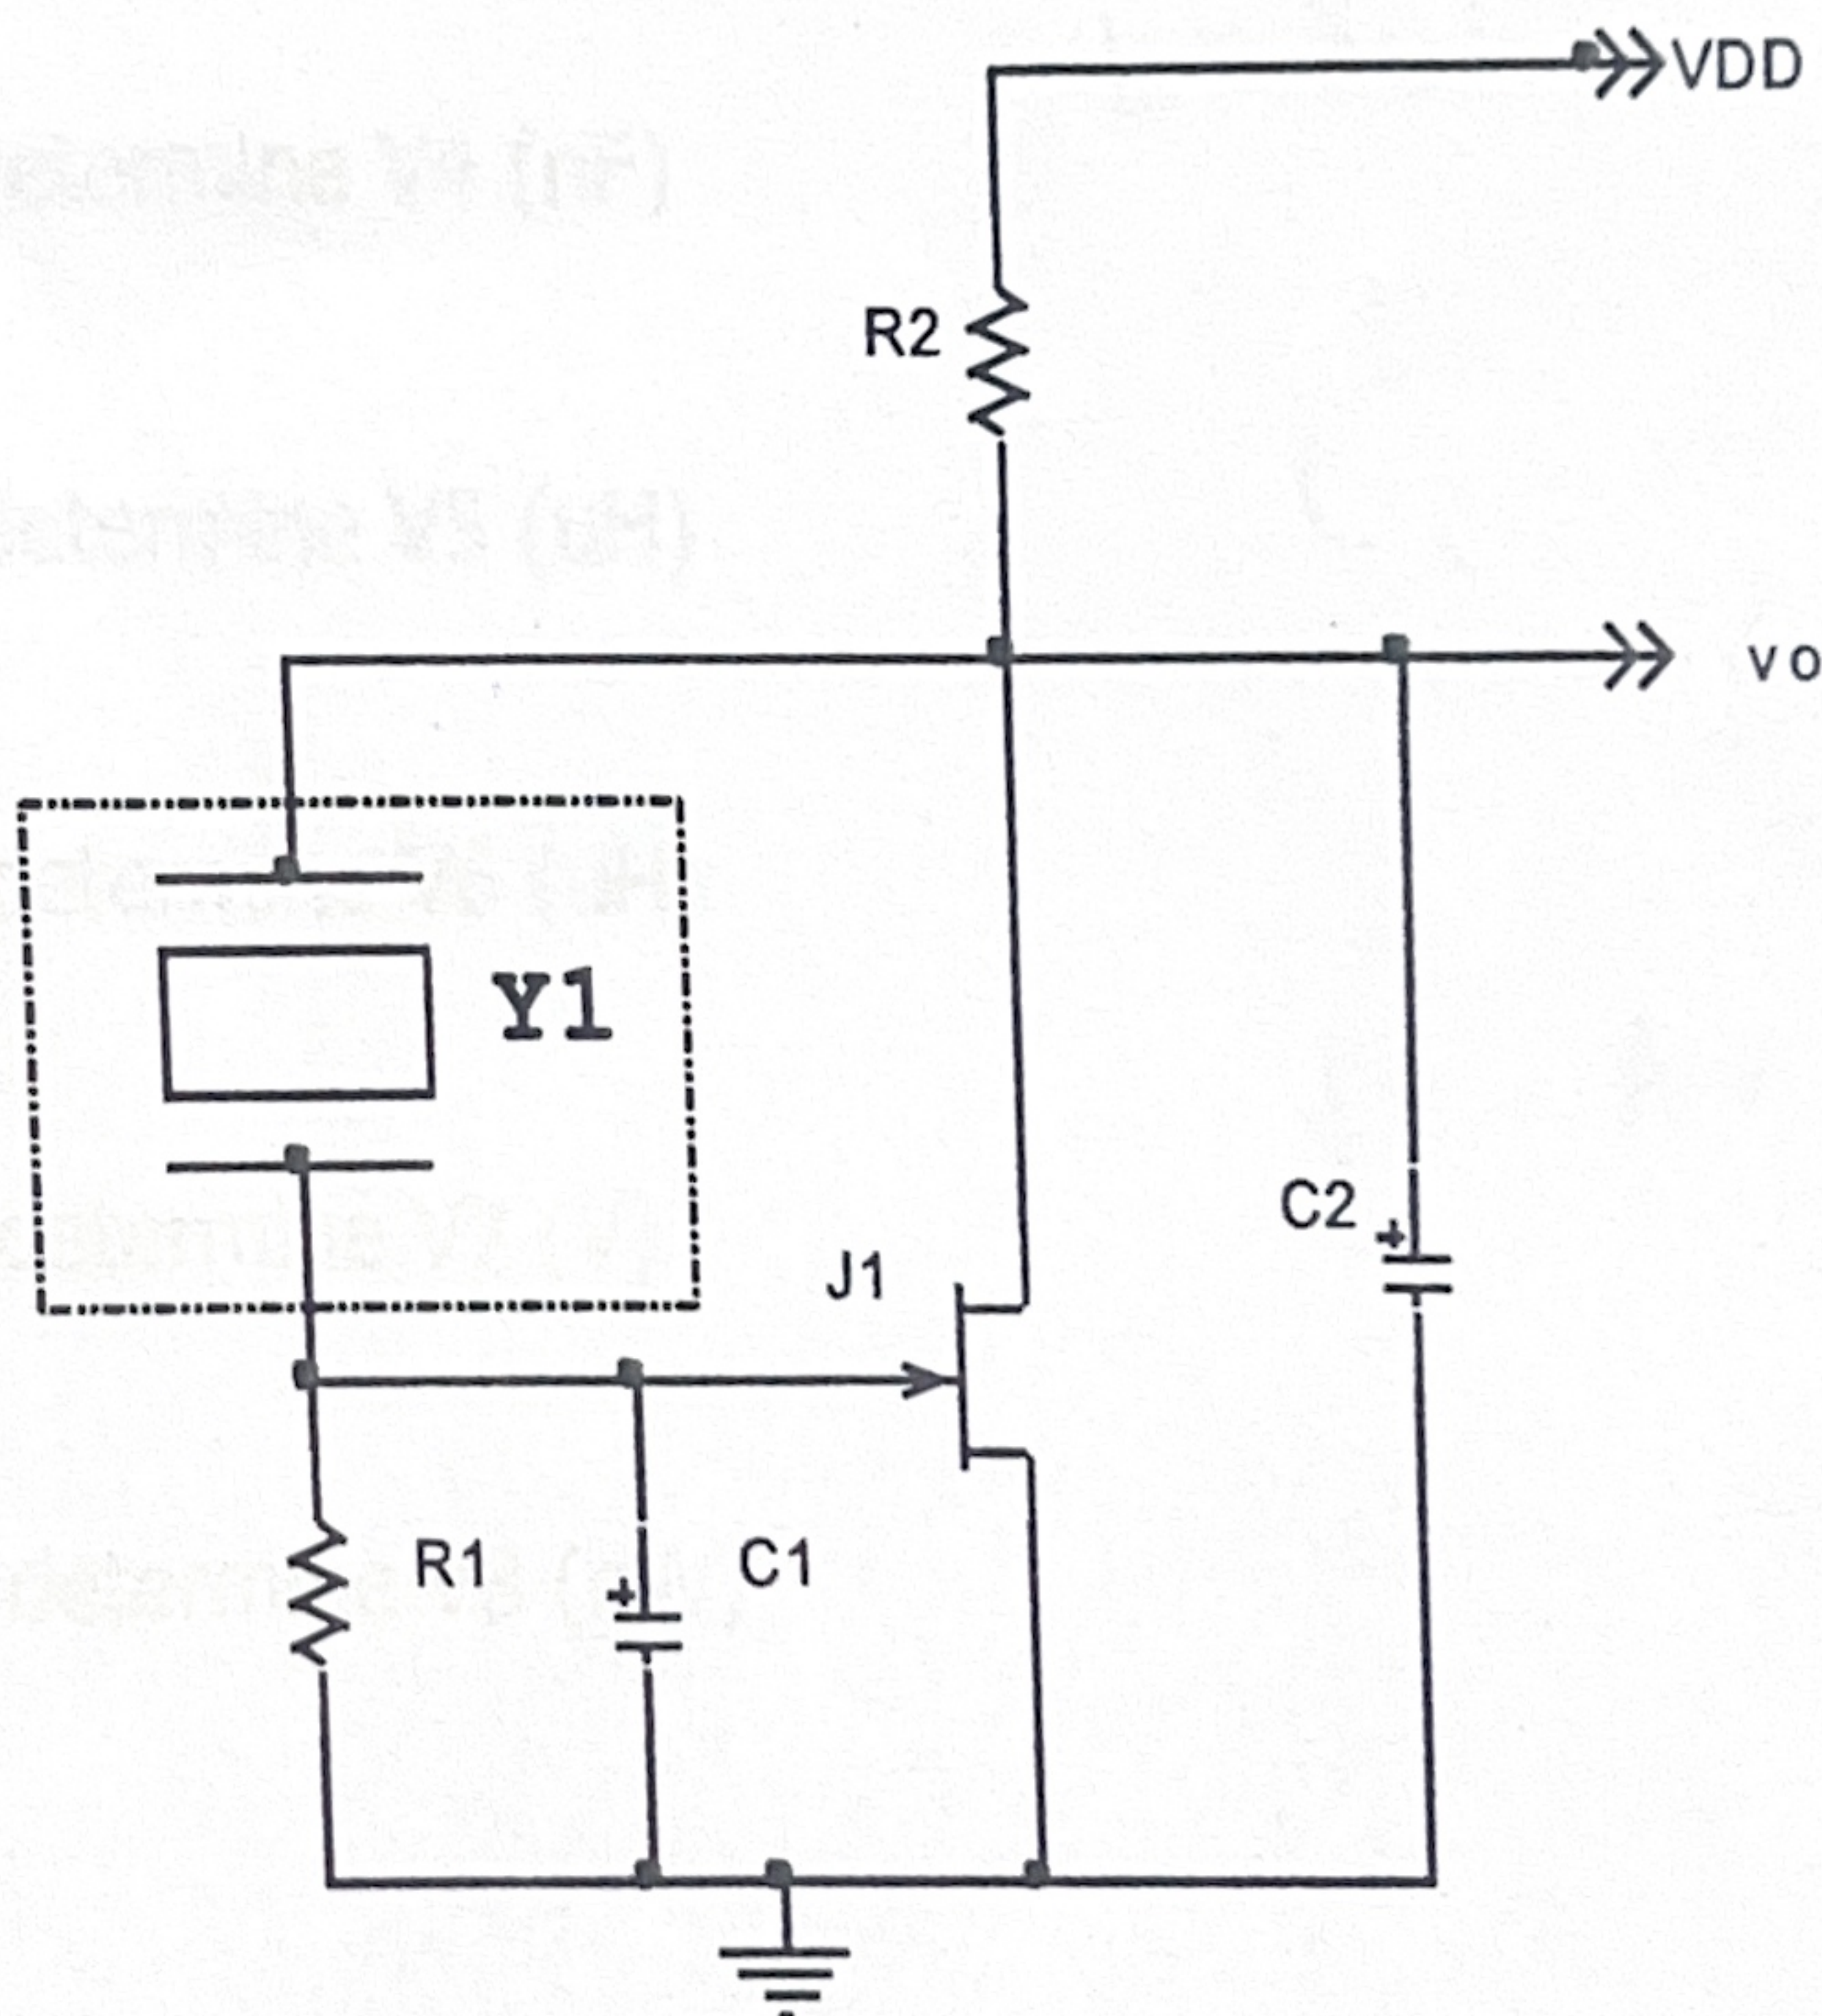

Figure 2: Unit 3 Q
From **Figure 2** and **Table 4**, determine V1 (pF)
From **Figure 2** and **Table 4**, determine V2 (nF)
From **Figure 2** and **Table 4**, determine V3 (pF)
From **Figure 2** and **Table 4**, determine V4 (nF)
From **Figure 2** and **Table 4**, determine V5 (uH)
From **Figure 2** and **Table 4**, determine V6 (uH)
From **Figure 2** and **Table 4**, determine V7 (V)
From **Figure 2** and **Table 4**, determine V8 (nW)